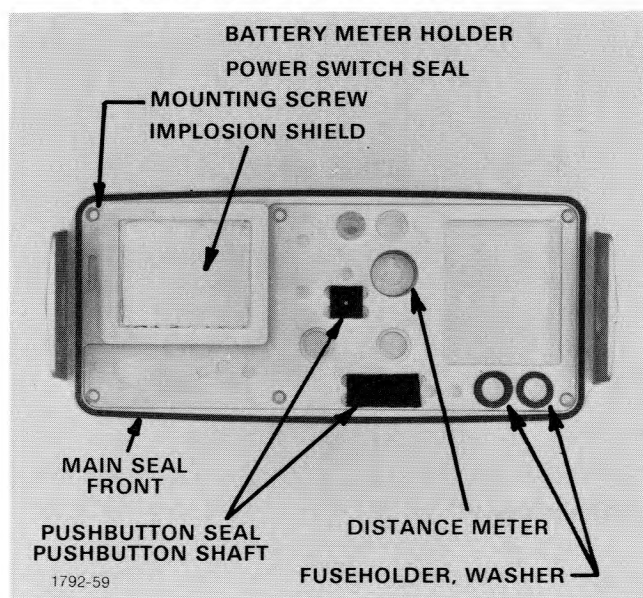

Fig. 5-5. Subpanel, identification of parts.
1. Preparation of the Subpanel for further assembly (see Fig. 5-5)
6. Installation of rubber seals in two grooves located on the outer (see Figs. 5-5 and 5-6) edges of the front and rear sides of the Subpanel
7. Install the implosion shield and its retainer on the Subpanel (see Figs. 5-5 and 5-7)